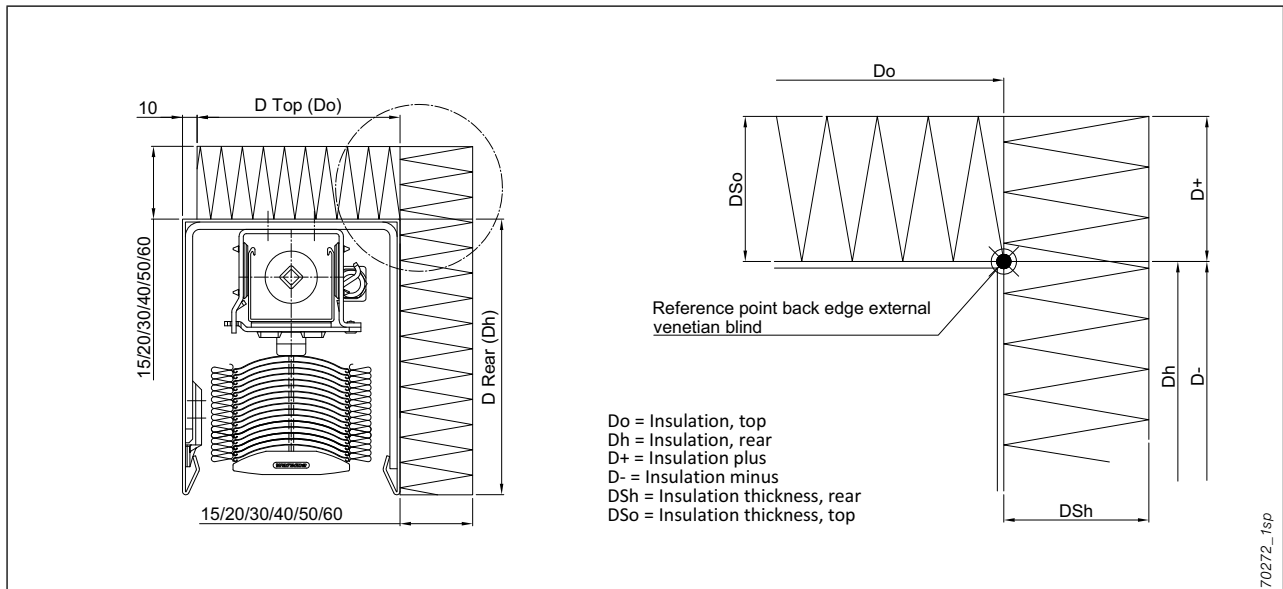

fig. 353: Measuring example executed with cover panel type .06
- The reference point is generally located at the cover panel back edge, see fig.353 on page 326